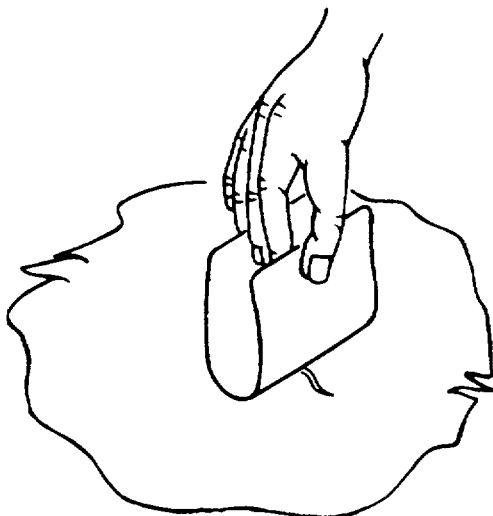

FIGURE 3-3. APPLYING PATCH
16. Once adhesive is tacky, bring ends of patch together (adhesive side out), and position center of patch onto center of hole (Fig. 3-3).